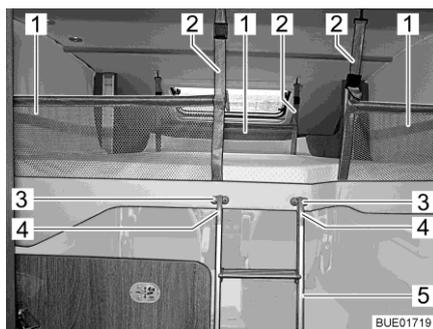

Fig. 97 Pull-down bed complete with applied safety net
The three safety nets (Fig. 97,2) with their retaining belts are located underneath the mattress in the pull-down bed. Only use the safety nets if persons are already in the pull-down bed.
- Attach retaining belts (Fig. 97,1) to the hooks on the ceiling.
- Hook both bows (Fig. 97,4) of the access ladder (Fig. 97,5) into the holders (Fig. 97,3).
- Release the access ladder (Fig. 97,5) from the holders (Fig. 97,3).